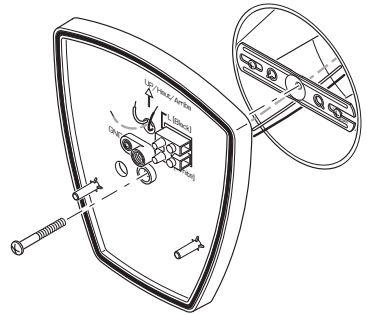

Figure 3
3. Route the junction box wires through a hole in the 1-2-Easy Connect™ (see Figure 3).
4. Place the 1-2-Easy Connect™ against the junction box (see Figure 3).
5. Insert the small mounting bolt through the 1-2-Easy Connect™ hole located below the threaded hole. Thread the bolt into the center hole of the mounting bracket (see Figure 3). Tighten bolt securely.